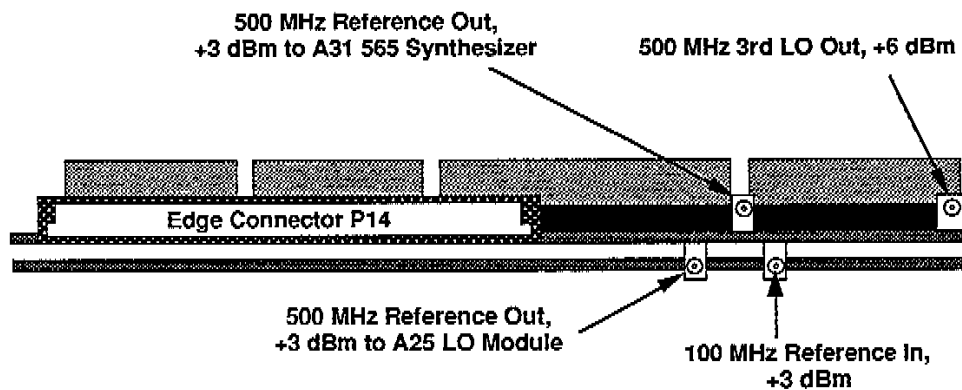

Figure 4-5. A28 Period Counter module connector locations (bottom view of module).
- Measure the +3 dBm, 100 MHz Reference period Counter input (Figure 4-5) if the terminal fails to respond with the 29 MHz LO frequency.